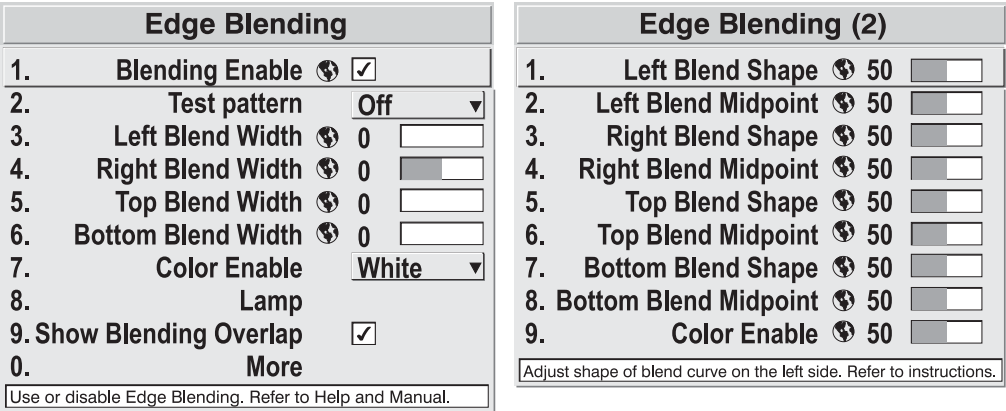

Figure 3.38. Set Starting Points for Each Projector
3. **SET STARTING POINTS FOR ADJUSTMENT (Figure 3.38):**
- ☐ Go to “More” and set everything in the *Edge Blending (2)* menu to 50.